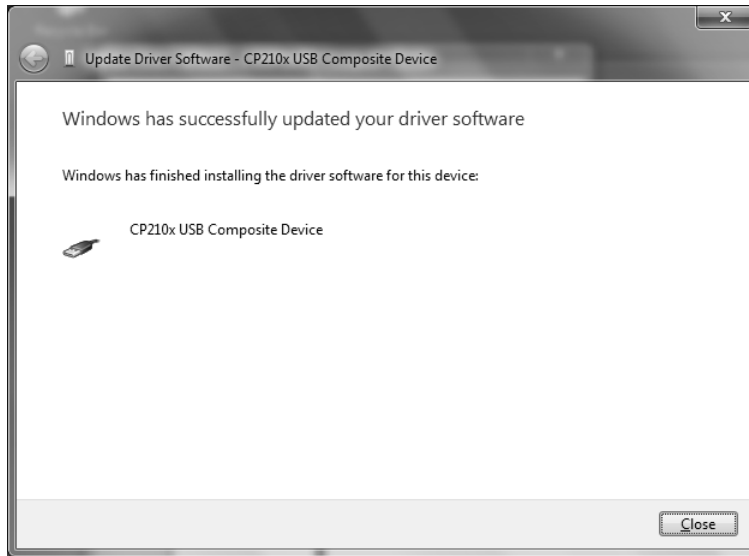

Fig. 65 Update Driver Software
(15) Click **Next** to start installation of the driver. When the installation is completed, the dialog box shown in Fig.65 appears. Click **Close** to complete installation normally.